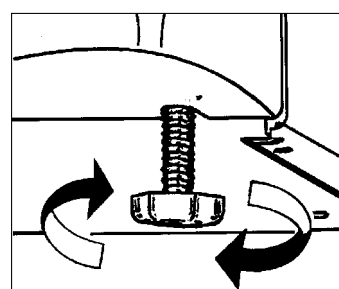

Fig. 5
Level the appliance by turning the 2 adjustable feet at the front of the appliance. The appliance must be level to prevent vibration and excessive noise and to ensure the doors shut correctly. (Fig 5)
1. Open the freezer door. Remove the plinth (A) at the bottom of the appliance, by pushing downwards and pulling outwards. (See fig 5)
2. Remove the hinge cover (B) in the plinth and reposition on the opposite side of the plinth.
7. Unscrew the small blanking plugs (3) and refit on the opposite side to cover the vacant hinge holes.
8. Unscrew the hinge pin (4) in the upper and lower hinge blades and refit on the opposite side.
9. Change the door self-closing system (5), putting the freezer door's on the fridge door and viceversa.